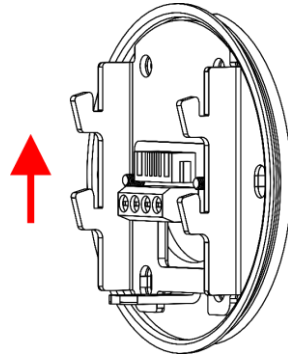

Fig. 13
Install the **mounting plate (07)** with the **4 x mounting hooks (13)** facing up (Fig. 13).